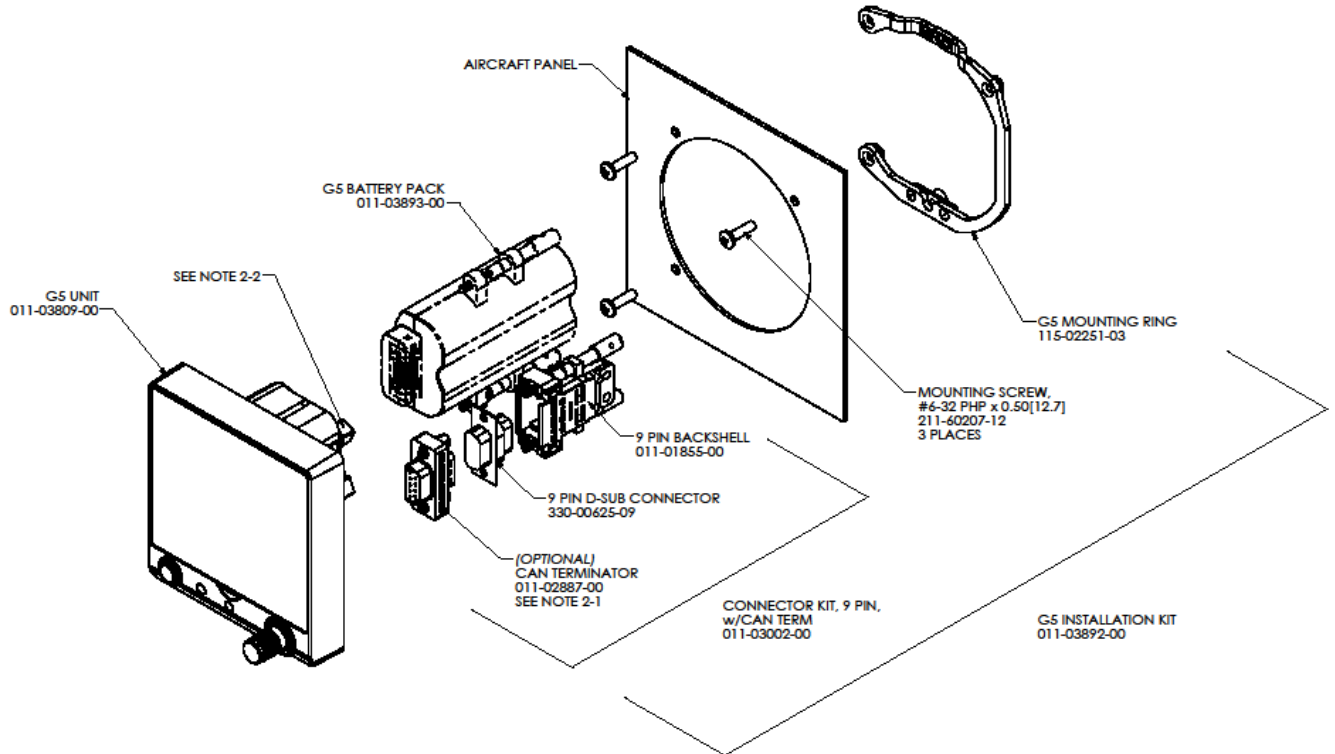

Figure 5-5 G5 Exploded View
2. Use a screwdriver to loosen the battery jackscrews on the back of the unit (reference Figure 5-5.)